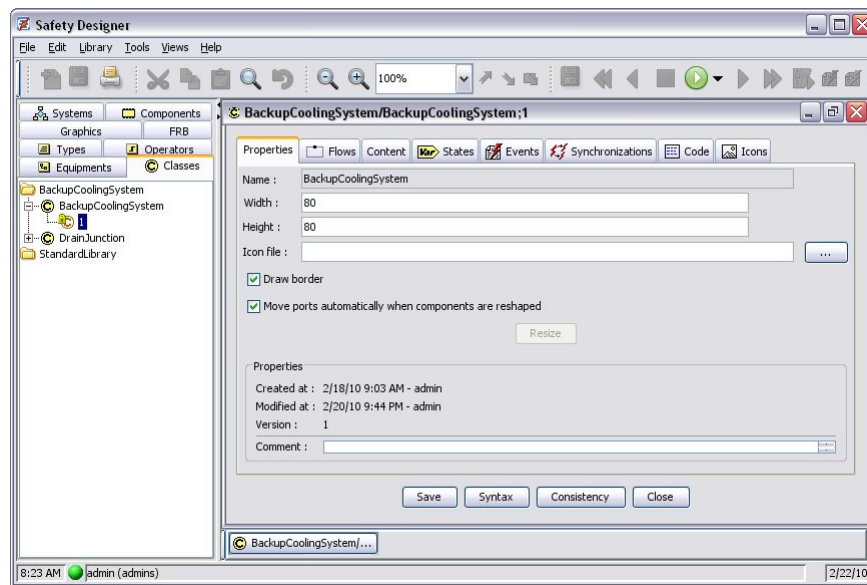

Figure 19: Model Class Editor
1. Access the Model class tab (Figure 19: Model Class Editor)